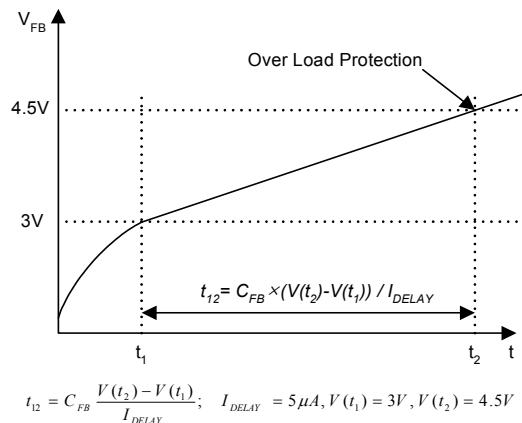

Figure 8. Over Load Protection (OLP)
**4.1 Over Load Protection (OLP) :** Overload is defined as the load current exceeding a pre-set level due to an unexpected event. In this situation, the protection circuit should be activated in order to protect the SMPS. However, even when the SMPS is operating normally, the over load protection (OLP) circuit can be activated during the load transition. In order to avoid this undesired operation, the OLP circuit is designed to be activated after a specified time to determine whether it is a transient situation or an overload situation. In conjunction with the Ipk current limit pin (if used) the current mode feedback path would limit the current in the Sense FET when the maximum PWM duty cycle is attained. If the output consumes more than this maximum power, the output voltage (Vo) decreases below its rating voltage. This reduces the current through the opto-coupler LED, which also reduces the opto-coupler transistor current, thus increasing the feedback voltage (VFB). If VFB exceeds 3V, the feedback input diode is blocked and the 5µA current source (IDELAY) starts to charge CFB slowly up to Vcc. In this condition, VFB increases until it reaches 4.5V, when the switching operation is terminated as shown in Figure 8. The shutdown delay time is the time required to charge CFB from 3V to 4.5V with 5µA current source.